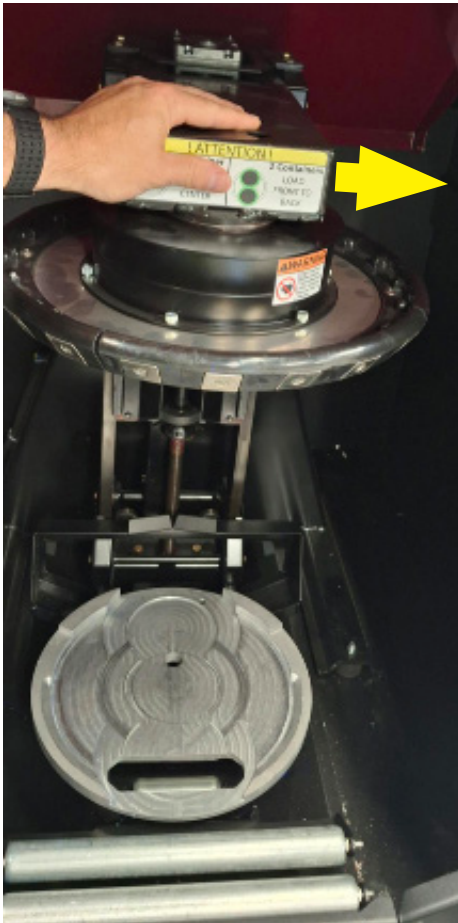

Figure 5.3
2. Open the door and break the rotating frame free of the vertical lock by pushing the frame to the side. (see figure 5.3 and 5.4)